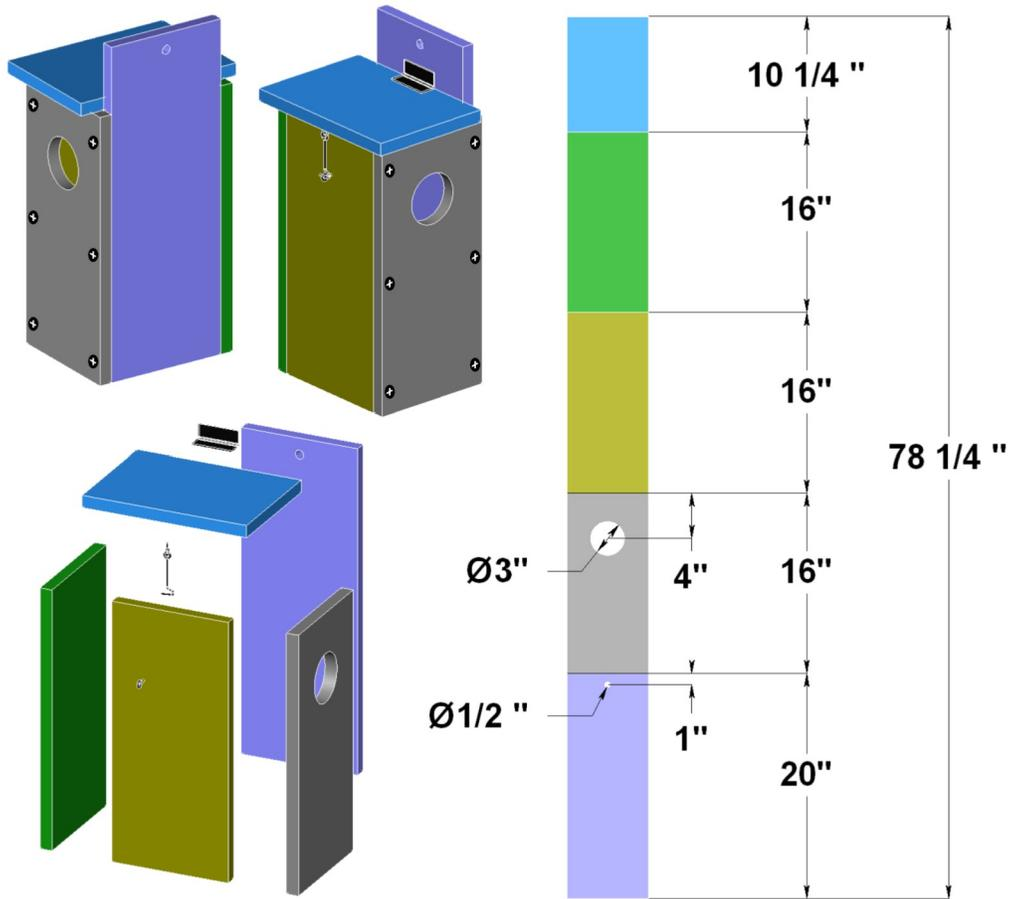

Figure 1: Cut-list, assembly, and exploded view
1. Cut board into five pieces (see figure 1):
4. Fasten the gray side piece (with the 3 inch hole) to the right edge of the purple back piece using three wood screws. Be sure the gray side piece is flush with the back edge and bottom of the purple back piece as shown in the top left image of Figure 1 below.
5. Fasten the green side piece to the left edge of the purple back piece using three wood screws. Be sure the green side piece is flush with the back edge and bottom of the purple back piece as shown in the top left image of Figure 1 below.
6. Fasten the yellow front piece between the gray and green side pieces using 6 wood screws (3 per edge). Be sure the yellow front piece is flush with the front edges and bottoms of the two side pieces as shown in the top center image of Figure 1 below.